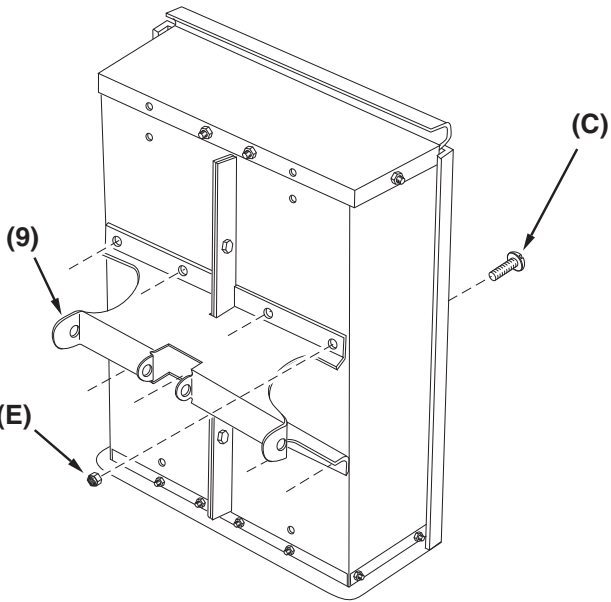

Figure 4
**STEP 4 (SEE FIGURE 4):** Attach the wheel support (9) to the cart bed using eight 5/16" x 3/4" truss head bolts (C) and 5/16" nylock nuts (E).